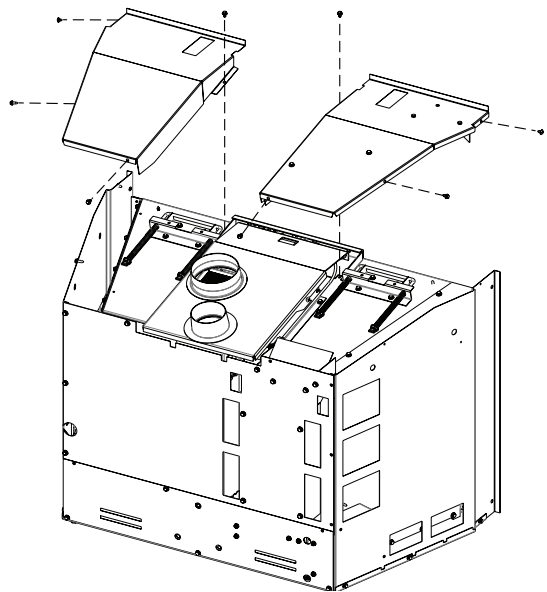

Figure 14
17. Re-attach outer tops to unit, be careful with light assembly wire harness, do not pinch wires under top, wires should run between top and center combustion box. **See Figure 14.**